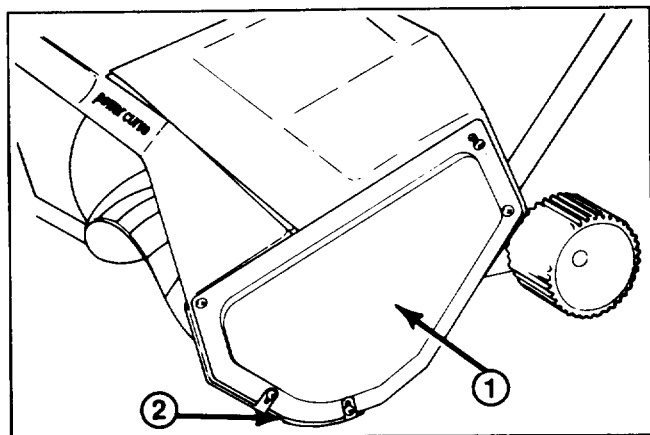
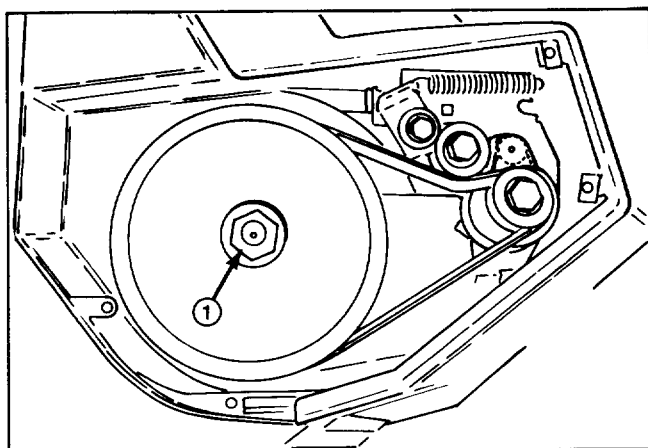

Figure 12
Figure 13
Note: If unable to remove rotor shaft by holding rotor, remove left side cover and skid (Fig. 12) and hold hex nut with 7/8" wrench while unscrewing rotor shaft (Fig. 13).
1. Remove (5) screws securing left side plate to snowthrower frame (Fig. 12). Remove side plate and skid.
1. Remove (5) screws securing left side plate and skid to snowthrower frame (Fig. 12). Remove side plate and skid.